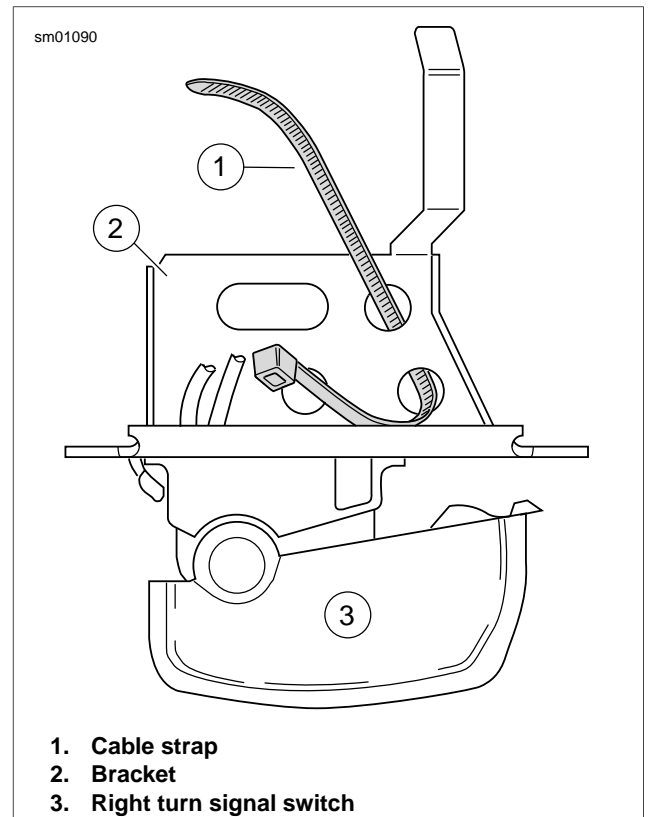

Figure 8-89. Insert Cable Strap in Switch Bracket
- See Figure 8-89. Insert tapered end of new 7.0 in. (177.8 mm) cable strap (1) into round hole in turn signal switch bracket (2) and then feed back through using the adjacent hole. Reserve the oblong hole for the bracket screw.